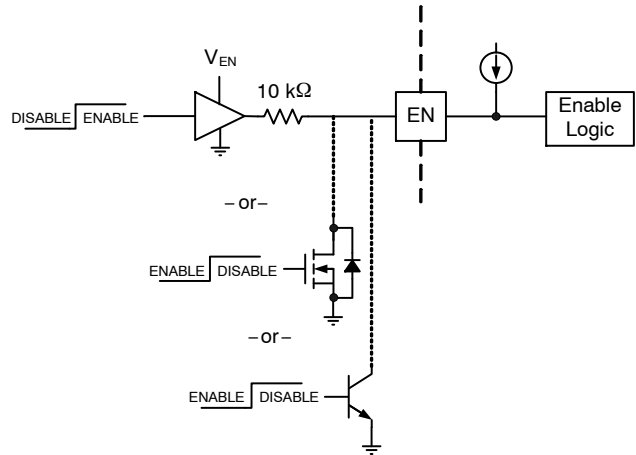

Figure 18. Enable Circuits: Push-Pull, Open-Drain, or Open-Collector
The device has an enable pin (EN) with internal 50 μ A pullup current. This gives the user the option of driving EN with a push-pull or open-drain/collector enable signal. When driving EN with an external logic supply a 10 k Ω series current limiting resistor must be placed in series with EN. See Figure 18. The maximum enable threshold is 3.4 V. If no external drive voltage is available, the internal pullup can be used to enable the device, and an open drain/collector input, such as a MOSFET or BJT can be used to disable the device. A capacitor connected between EN and ground can be used with the internal pullup current source to provide a fixed delay to turn-on and turn off. See Equation 1.